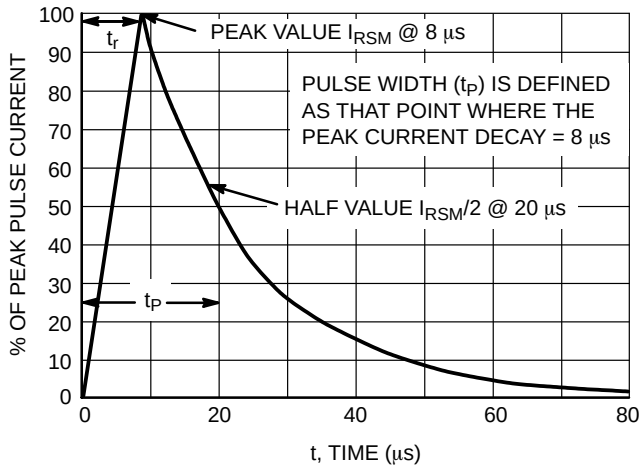

Figure 3. 8 x 20 μs Pulse Waveform
1. Non-repetitive current pulse per Figure 3
4. 8 x 20 μ s pulse waveform per Figure 3